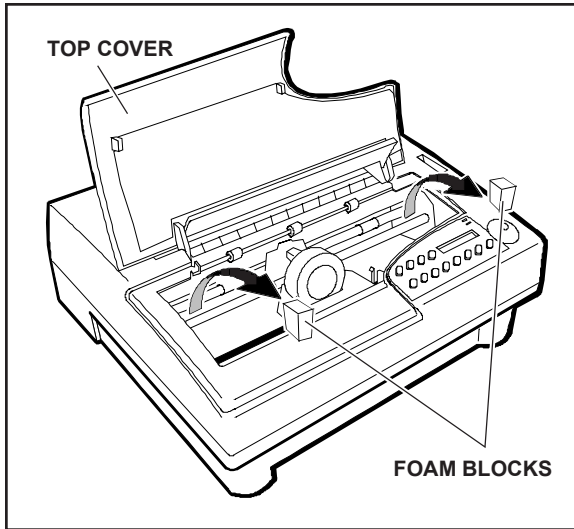

Figure 1-2. Removing the Foam Blocks
2. Carefully remove the foam blocks from the printer, as shown in figure 1-2.